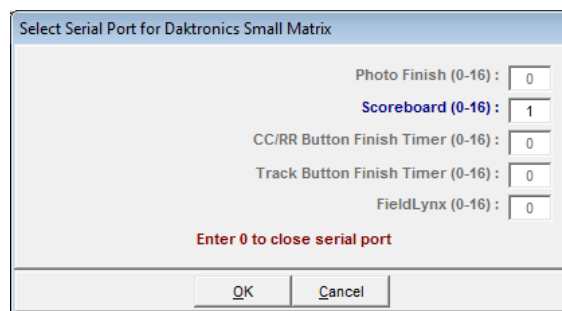

Figure 25: Serial Port for Daktronics Fixed Digit
6. For the *Scoreboard (1-16)* option (Figure 25), select the COM port number on the Hy-Tek computer that will output Standard RTD, and then click **OK**.